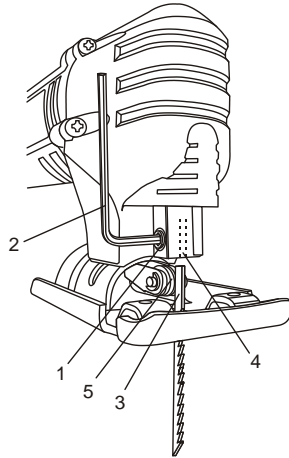

Fig. 2
1. To install a blade in the detail saw, loosen the blade holder set screw (1) by turning it counter clockwise approximately one full turn (Fig. 2).
**NOTE:** Use the 2.5mm hex key (2) that is stored in the cord guard at the rear of the tool.
2. Insert the appropriate blade (3) into the blade holder slot (4) as far as it will go.
**NOTE:** Make sure the rear edge of the blade is nested in the blade guide roller (5).